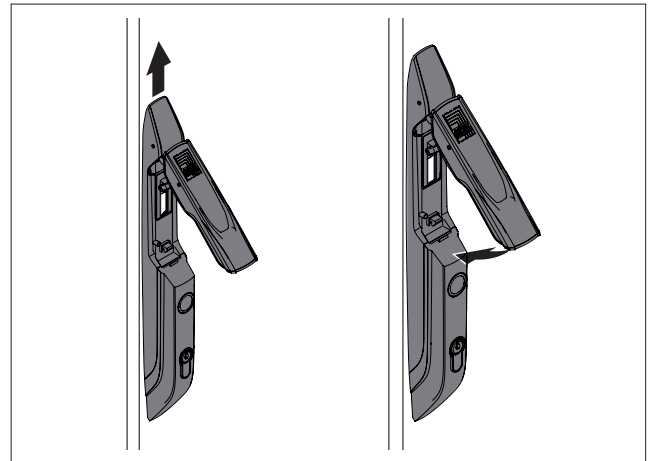

Fig. 8: Locking the handle (right-hand hinge / left-hand hinge accordingly)
- Push the handle upwards and lock it (fig. 8).